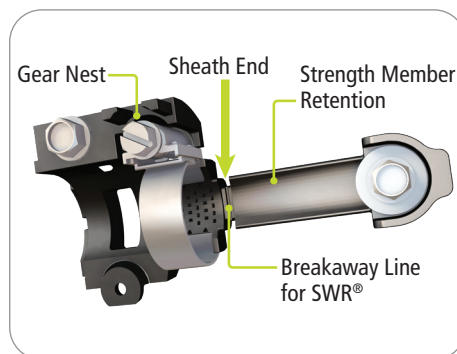
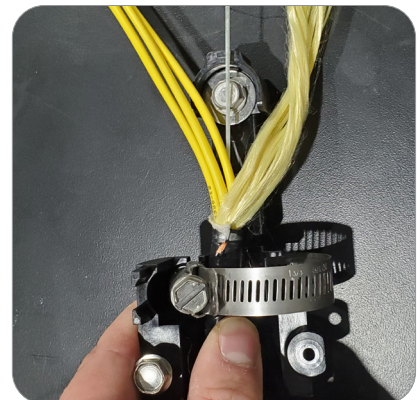

Figure 43
Figure 44
2. Locate the cable attachment unit (CAU) within the unit packaging (Figure 43). Attach the cable attachment unit to the cable by tightening the gear nest on the hose clamp (Figure 44).